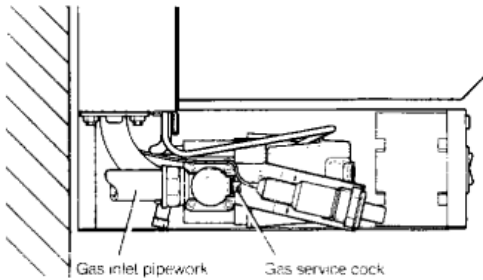

Fig. 11
2.7 Connect the Gas Supply - See Fig. 11.